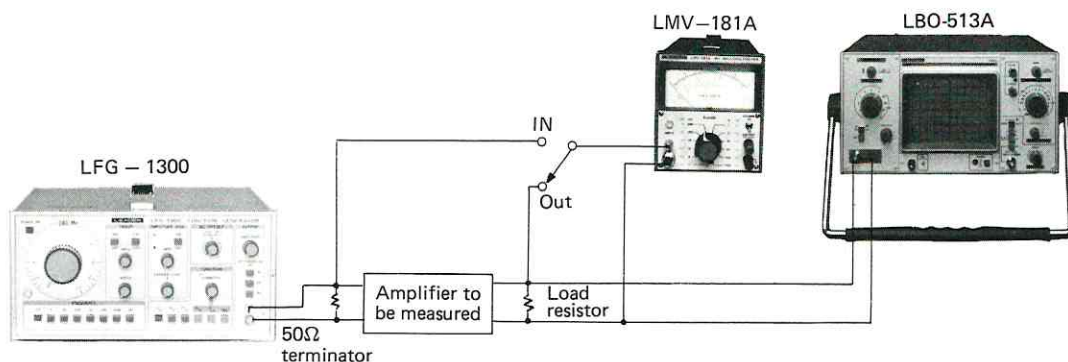

Fig. 5-2
Connect the instruments as shown in Fig. 5-2. As the input voltage to the amplifier is increased by turning the AMPLITUDE knob to the right, the output voltage of the amplifier is increased. When the amplifier saturates, the output voltage does not increase, and the waveform on the oscilloscope starts a distortion. The input/output characteristics of the amplifier are obtained by recording the output voltages. The data is useful to know the range of no saturation amplification. Voltage gain of the amplifier is calculated by the following formula:
(1) Panel setting
- Connect the instruments as shown in Fig. 5-2. It is difficult to check clipping and distortion of an audio amplifier by sine waves. However, triangle waves are useful in such a case, since round summits are observed as shown in Fig. 5-4 when clipping and distortion exist.